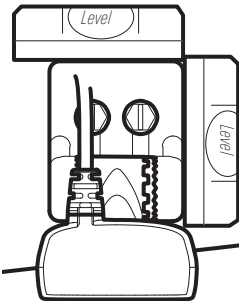

Figure 24
7. Continue to adjust until the bracket is also level from port to starboard (horizontally level as you look at the transducer from behind the boat [Figure 24]).